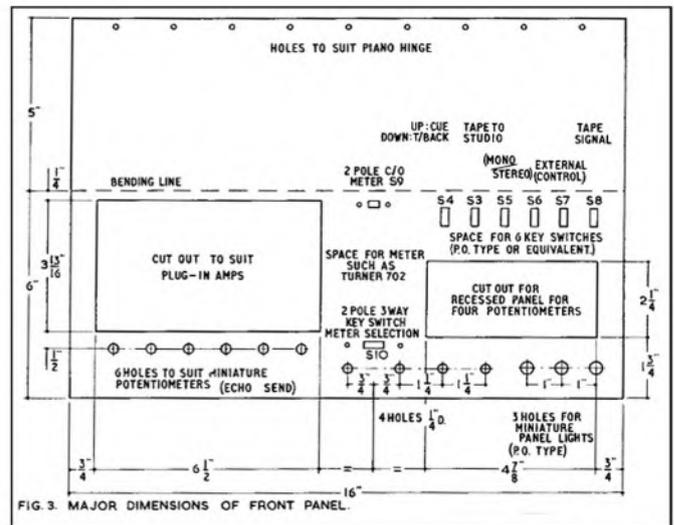

FIG. 3. MAJOR DIMENSIONS OF FRONT PANEL.
**Fig. 3.** The optimum bias setting taking into account signal-to-noise ratio and distortion should be determined aurally. The best setting will normally be found somewhere between A and B; i.e. a slightly higher bias level than that giving maximum recorded signal level.
A simple method of finding the optimum bias level is as follows: Fix a scale beneath the pointer, then make (say) twelve test recordings, at different bias settings; the ideal signal to record would be tone, preferably about 1 Kc/s. The recorded level will be found to alter with different bias settings in the manner shown by the graph (**fig. 3**).
The major dimensions of the front panel are given in fig. 3, and are identical with the prototype except that provision has been made for separate feeds for echo purposes. For recording popular music echo is almost mandatory, and the control for each channel gives the echo mixture an easily adjustable level to a separate mixing amplifier, and then to an external echo machine which can be any of the many available on the market at varying prices. The meter cut-out is for the Turner Type 702, and these dimensions must be modified to suit any other meter that is contemplated. The large cut-out on the left-hand side is for the plug-in units, and here again can be modified to suit other requirements. The author's units are  $1\frac{1}{8} \times 3\frac{1}{4}$  in., and used *Painton* miniature ten-way plugs, with the sockets in the framework. These were a little expensive at about 15s. a pair, but have proved entirely reliable and can be recommended. There are other types, such as the *McMurdo* red range, on the general market at about half the cost, but may be wider so that other dimensions may have to be used if this plug is adopted. Any connector with six or more ways is suitable.